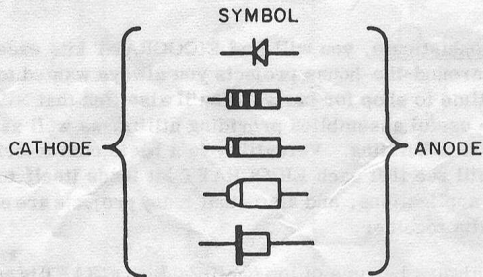

Figure 2. Diode Polarity Identification
Figure 2 identifies the polarity of the diodes which are used in EICOCRAFT kits:
9. () GERMANIUM DIODE CR1. (See figure 2 for diode polarity identification.)